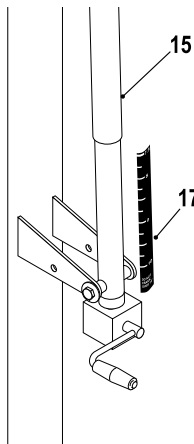

Figure 12
21. Adjust unit to 7-1/2 feet. Use a tape measure to measure from the top of the rim to the playing surface. Stick Height Decal (#17) to back of actuator (#16) with the "7.5" mark aligned with bottom of Actuator Sleeve (#15). See Figure 12.